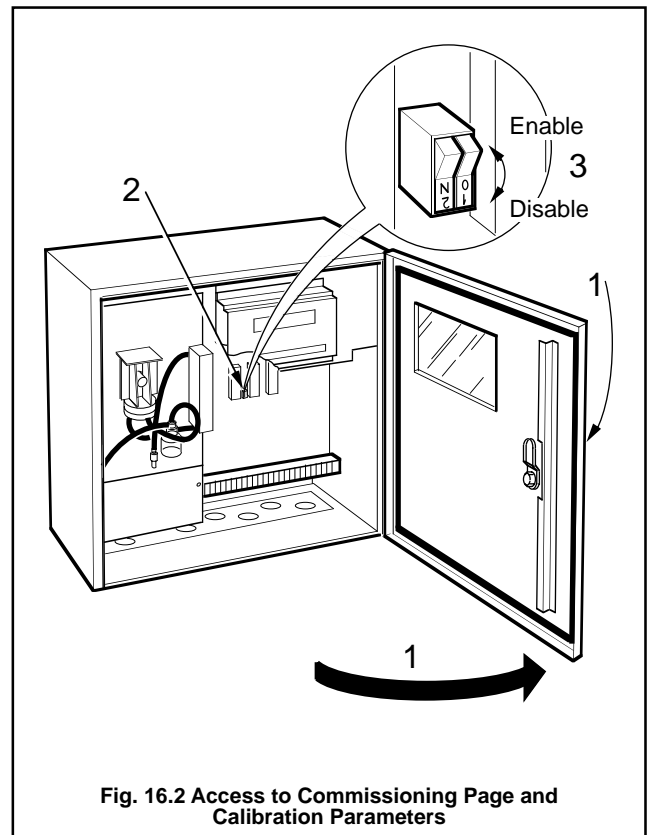

Fig. 16.2 Access to Commissioning Page and Calibration Parameters
16.3 Access to the Commissioning and Calibration Parameters – Fig. 16.2